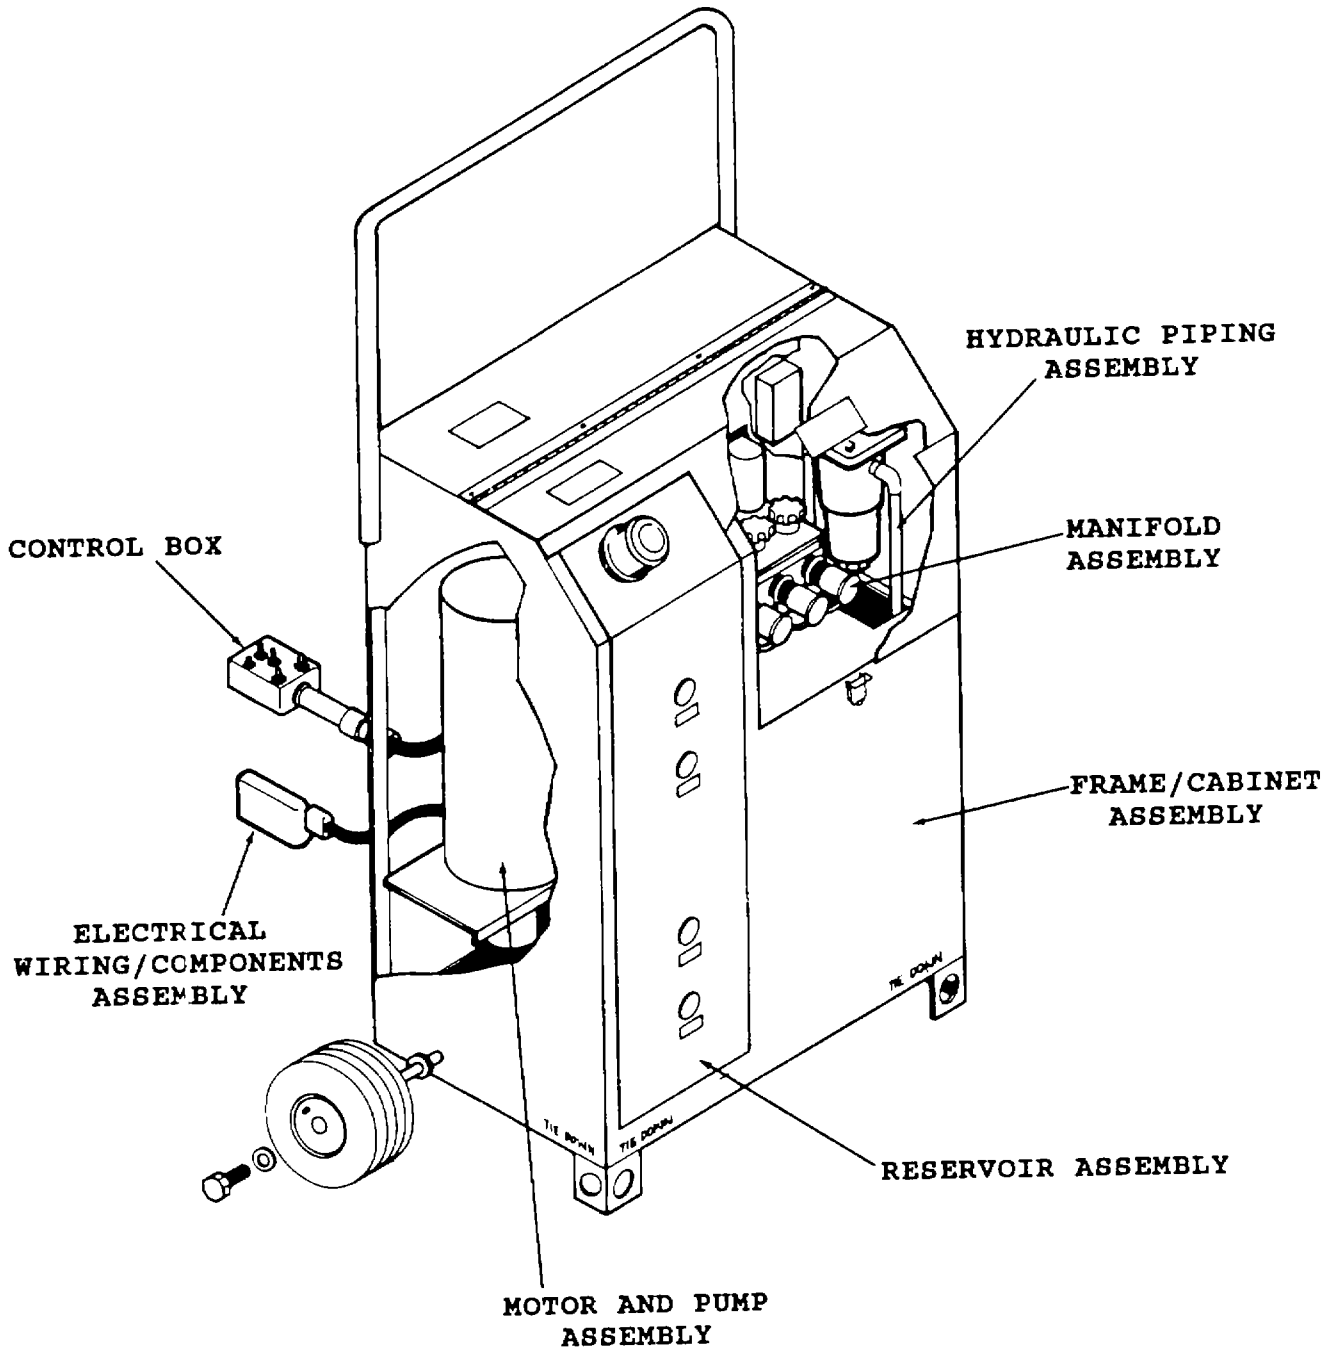

Figure 1-2. Hydraulic Kneeling/Erecting Cart Major Internal Components
**1-8. Capabilities and Features.** The cart delivers MIL-H-5606 or MIL- H-83282 hydraulic fluid at a minimum rate of 1.2 gallons per minute (gpm) at 1,000 pounds per square inch (psi), and 0.4 gpm at 3,000 psi. The cart is mounted on two wheels with semi-pneumatic tires for easy travel on the flight line. Operator's controls and indicators are located at the front side of the cart under the control panel cover and on the controller stowed inside the cabinet. To familiarize using personnel with the cart characteristics and physical makeup, a table of equipment data is presented in Table 1-1 and some of the major components are identified in Figure 1-2.
**1-9. Location and Description of Major Components.** The major components (Figure 1-2) of hydraulic kneeling/erecting cart are: frame/cabinet assembly, manifold assembly, motor and pump assembly, reservoir assembly, hydraulic piping assembly, and the electrical wiring/components assembly.
*a. Frame/Cabinet Assembly.* The cart operating components, including the controls and indicators, are enclosed in a welded steel cabinet, (Figure 1-2). The cabinet is supported on semi-pneumatic tires at the rear corners and legs at the front corners. The legs have holes to facilitate in tiring down the cart for storage or during shipment. A handle is attached to the cabinet for ease in controlling, while moving the cart. A hinged removable door at the rear of the cabinet and a hinged control panel cover on top allow access to all internal components. The cabinet has an access to allow the power cable and controller to remain out with the door in the closed position during operation. A drain hole is located at the bottom of the cabinet. Three horizontally divided areas are available for storage of electrical cables and hydraulic hoses.
*b. Manifold Assembly.* The manifold assembly (Figures 1-2 and 1-3) houses the majority of controls and indicators used on the cart. Six solenoid valves (for tall, left, and right) permit/receive fluid flow to/from helicopter struts while a seventh solenoid valve allows fluid flow to recirculate to the oil reservoir when neither kneeling/erecting operations are being performed. Three manual flow regulators (for tall, left, and right) control the amount of flow to/from helicopter struts. Three quick disconnect couplings and dust caps (for tall, left, and right) are connected to the manifold at the front end. A pressure gage to read pump pressure developed is connected to the manifold. A variable pressure relief valve to adjust flow pressures between 100 and 3,000 psi is also attached to the manifold. The manifold assembly is easily accessible by lifting up the control panel cover.
c. Motor and Pump Assembly. The motor (Figures 1-2 and 1-4) receives 24 volt direct current (vdc) supply from either the aircraft, \_F auxiliary power unit or batteries. The motor is a 1.5 horse power (hp), 1,800 revolutions per minute (rpm), totally enclosed non ventilated motor and drives the hydraulic gear pump through the flexible coupling which connects the motor output to pump input shafts. The pump rotation is clockwise and it pumps out minimum of 1.2 (gpm) at 1,000 psi and 0.4 gpm at 3,000 psi. The motor/pump adapter attaches the pump to the motor. A case covers the motor, start relay, circuit breaker, and electromagnetic interference filter to protect them from environment.